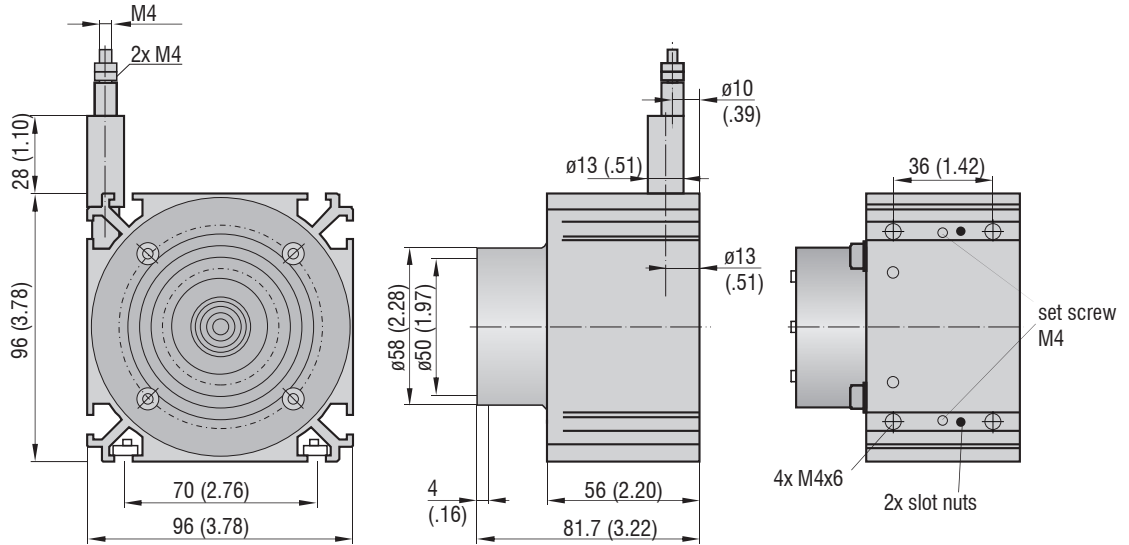

Fig. 3 WDS-P96-M, dimensions in mm (inches), not to scale
- Series P115: 4x M6 screws DIN 931 and 2 groove stones, see Fig. 3.